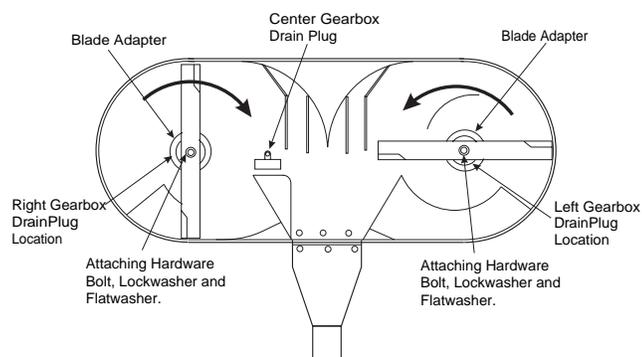

Figure 7-13 Gearbox Drain
3. Beneath the cutter deck is an access hole to center gearbox drain plug (Figure 7-13). Clean the area thoroughly and then place a suitable container under the drain plug.
The blades must be installed 90° to each other as shown in Figure 7-13. If the blades are not installed as shown, they will contact each other and could cause severe damage to the blades, deck, and blade drive system.